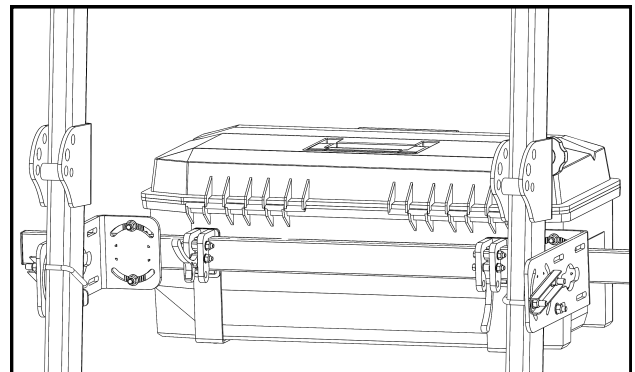

Fig. 1 (example of attaching a tool box)
1. Figure 1 shows an example of a toolbox installed on a Tool Bar.